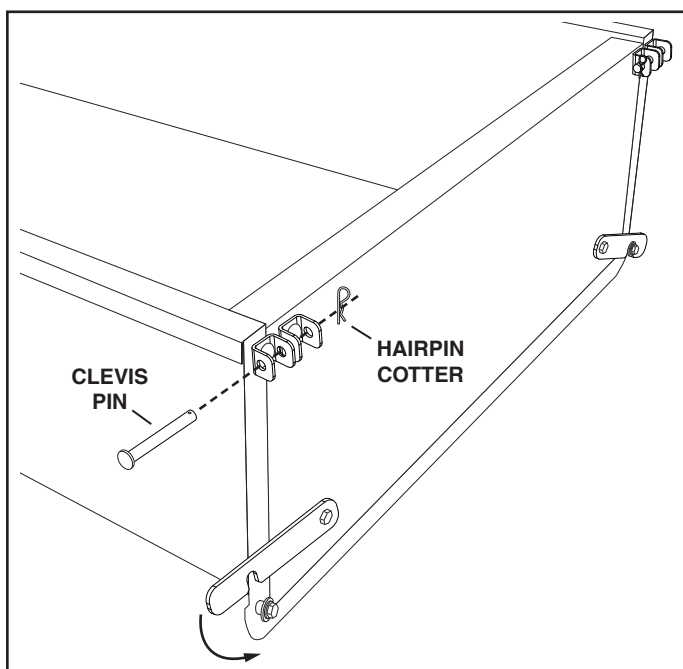

FIGURE 5
- Secure the top of the tailgate to the cart by sliding a clevis pin through the tailgate hinges and securing it in place with a hairpin cotter. See figure 5.
- Slide the tailgate latches over the step bushings assembled in step 10 to lock the tailgate in place. See figure 5.